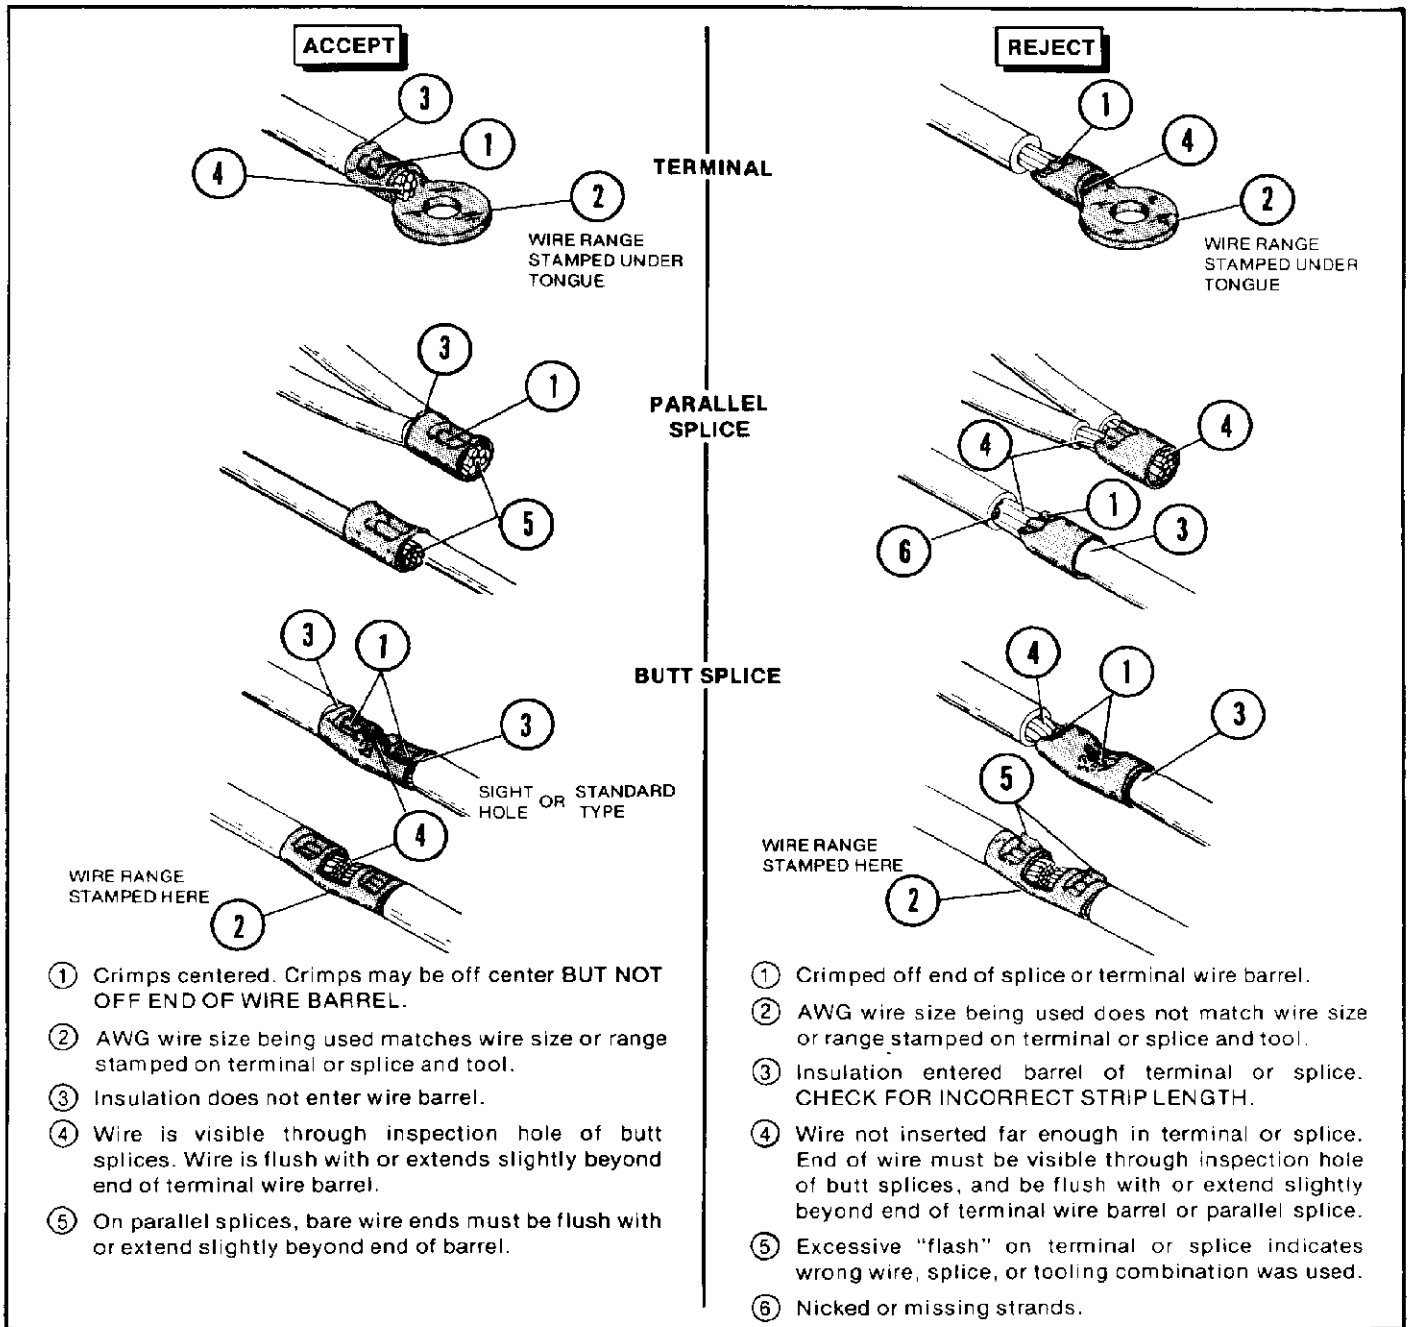

Figure 4
- Refer to Section 3 and Figure 4 for crimp inspection.
Inspect crimped terminals and splices by checking the features described in Figure 4. Use only the terminals and splices that meet the conditions shown in the "ACCEPT" column. "REJECT" terminals and splices can be avoided through careful use of instructions in Section 2, and by performing regular crimping jaw maintenance as instructed in Section 4.